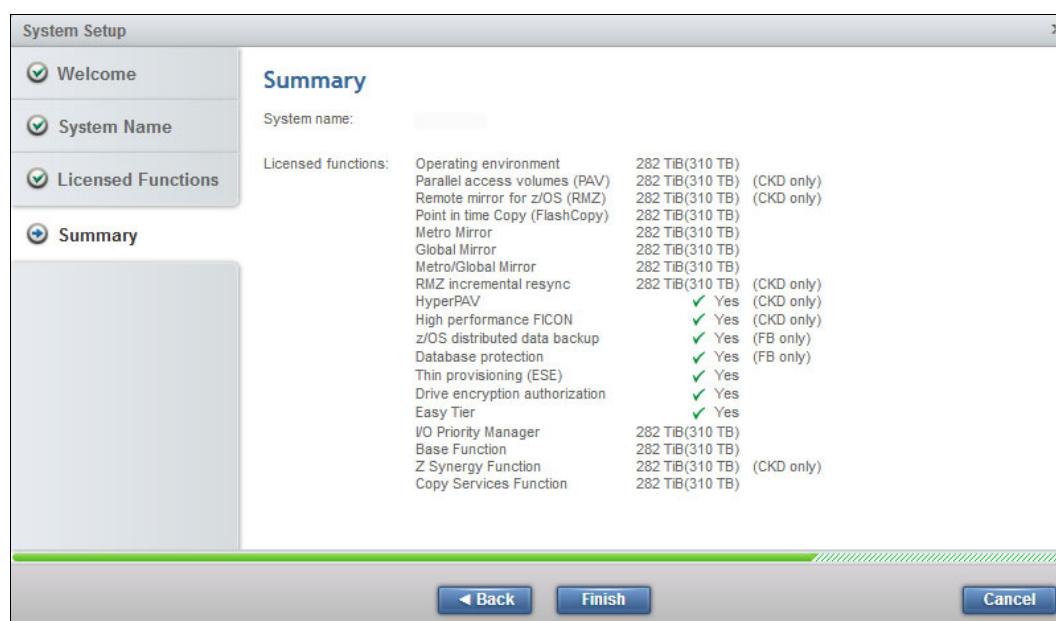

Figure 11-8 System Setup: Summary.
- Click **Next** to open the Summary window, which is shown in Figure 11-8. If everything looks correct, click **Finish** to exit the System Setup Wizard. After the wizard is closed, the System window opens.